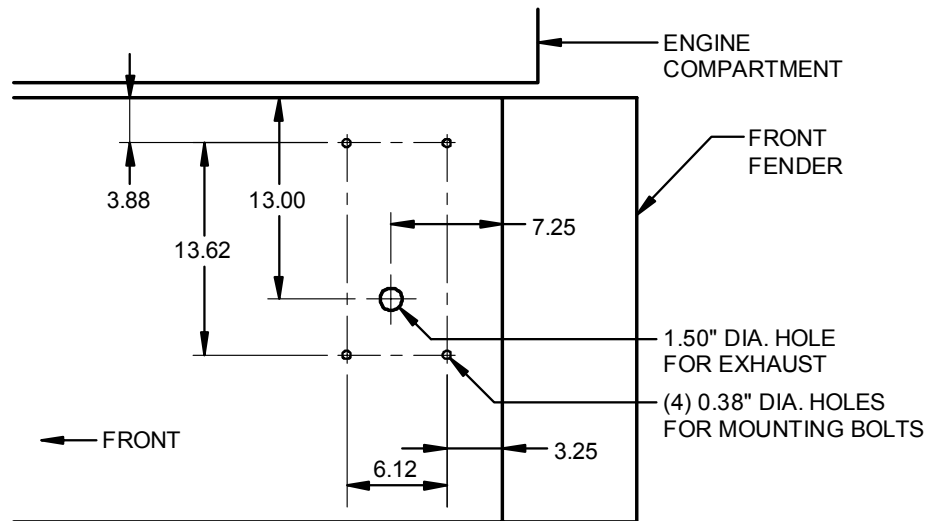

Figure J-12. Coolant Heater Installation Dimensions
Coolant Heater Installation. (Refer To Figures J-12 and J-13.) Install the engine coolant heater on the rear of the crane's left front fender as follows:
- b. Mark the centers in the left front fender for the four 0.38" (3/8") diameter holes and one 1.5" diameter hole in accordance with the appropriate dimensions shown on Figure J-12.